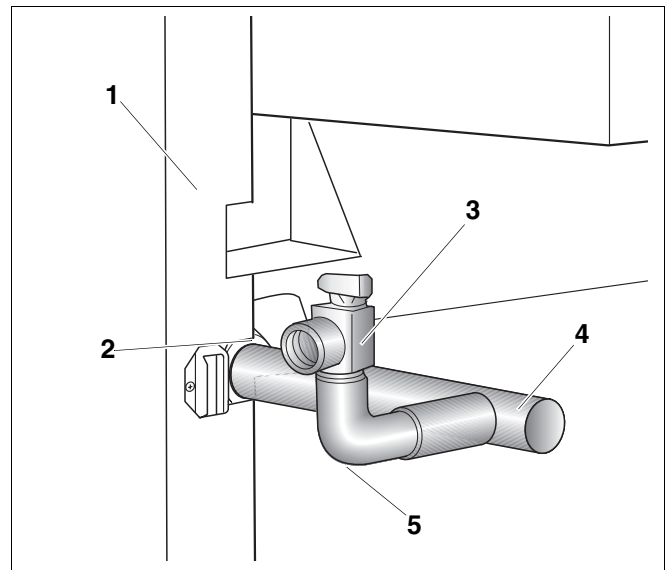

Fig. 10 Supply connection
- Install the elbow and the safety valve as shown in Fig. 10.